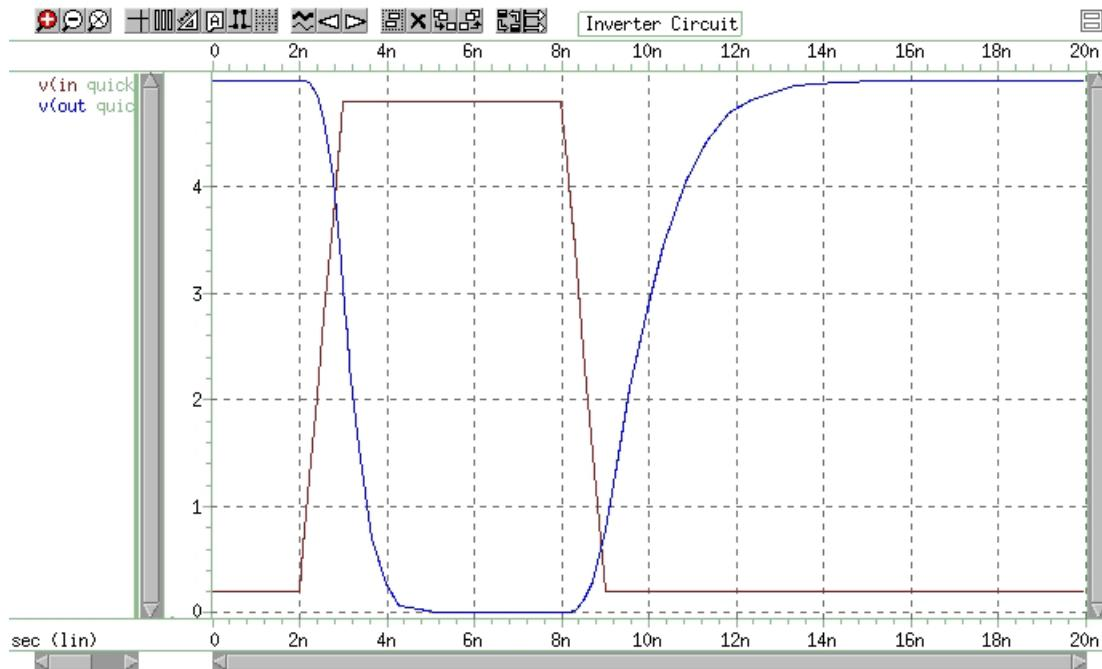

Figure 58 Voltage at MOS Inverter Node 1 and Node 2
3. Use WaveView to examine the voltage waveforms, at the inverter IN and OUT nodes. Figure 58 on page 514 shows the waveforms.